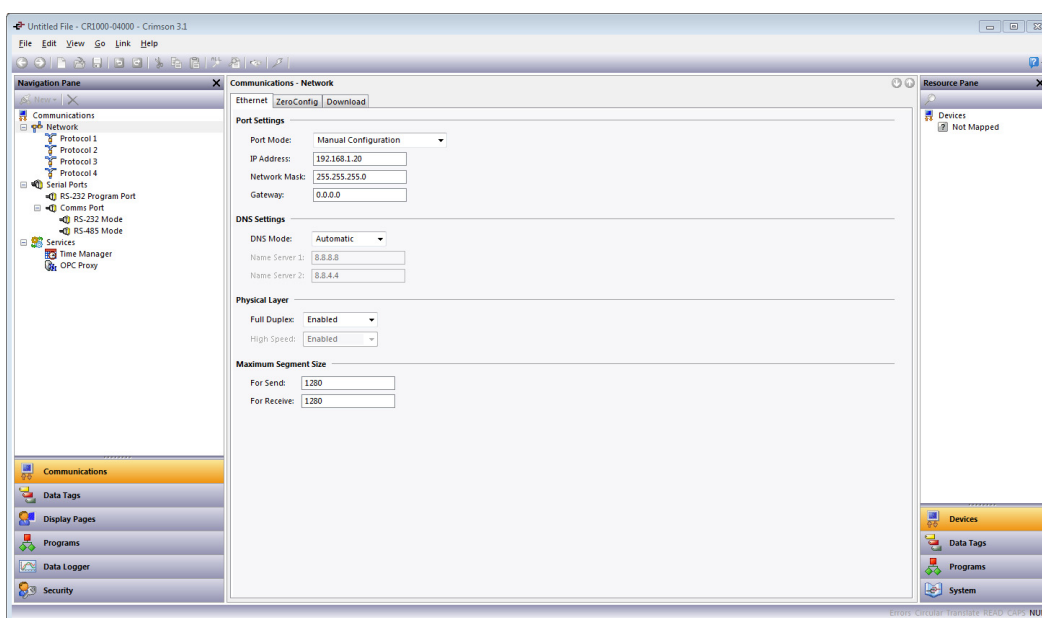

Figure 1.
1. Referring to Figure 1, go to the Navigation Pane and Navigate to the Communications section.